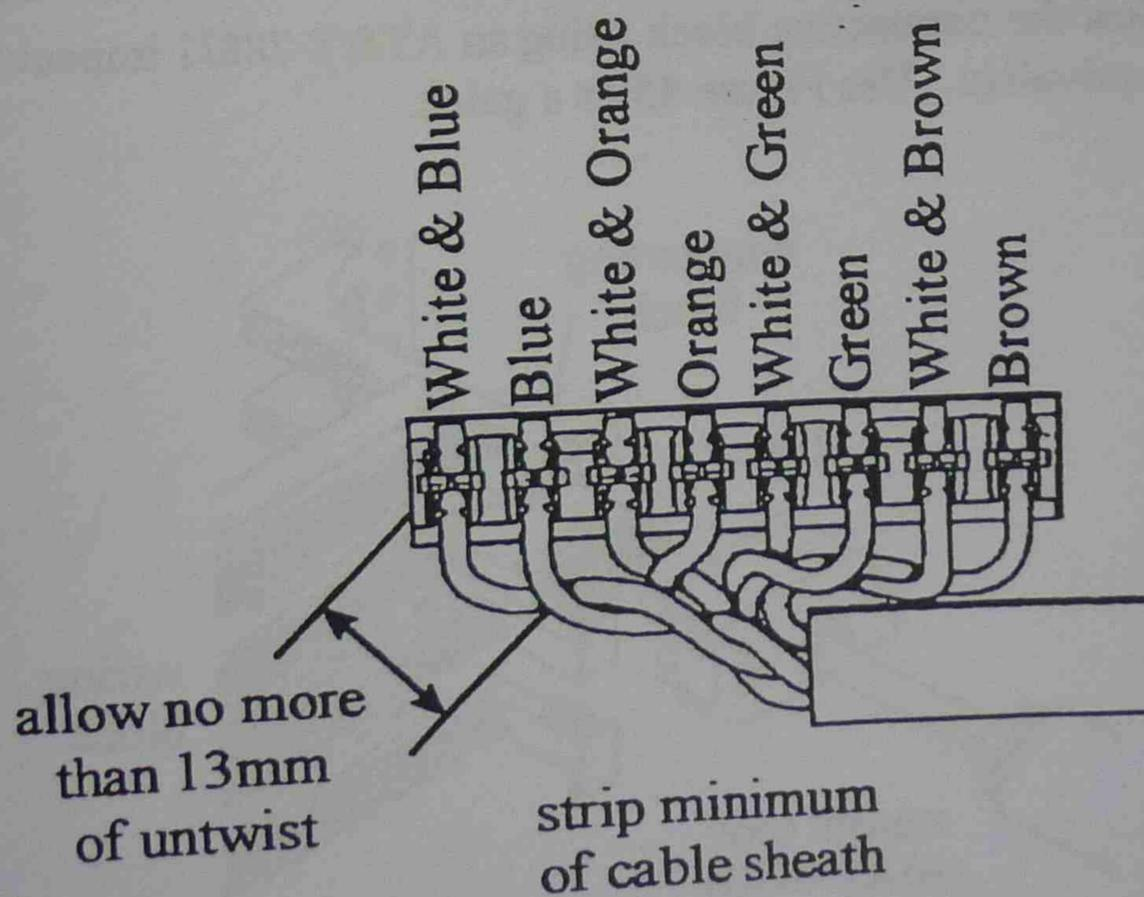

Figure 43 Arrangement of wires in block
12. Visually inspect the cable termination at this point to eliminate any miswires or reversals. Use Figure 43 as a guide.